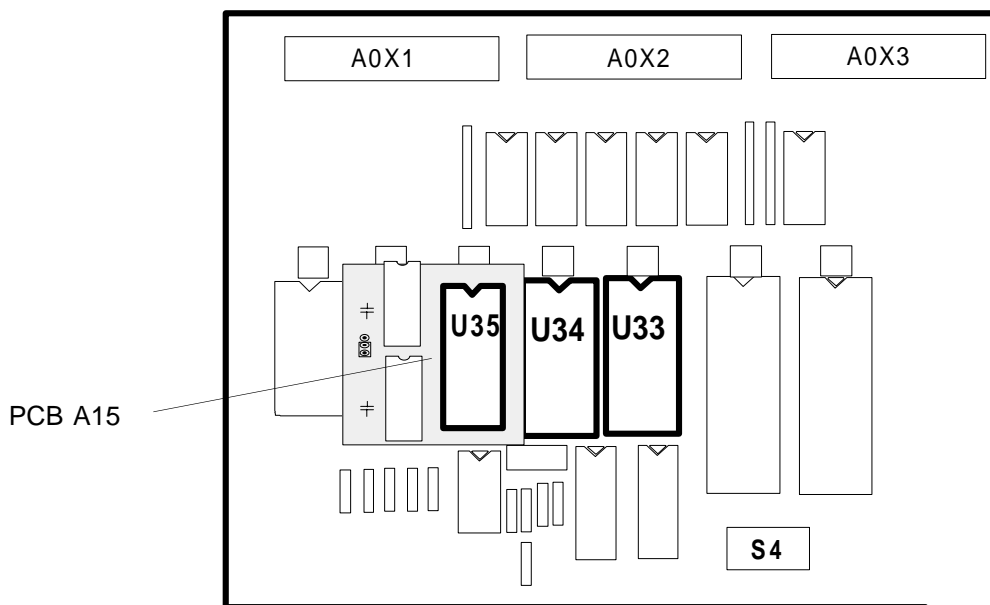

figure 3
5. Insert PCB A15 into SOCKET U35 of PCB A0. The orientation of PCB A15 must be the same as U33 / U34. See figure 3 on the next page.